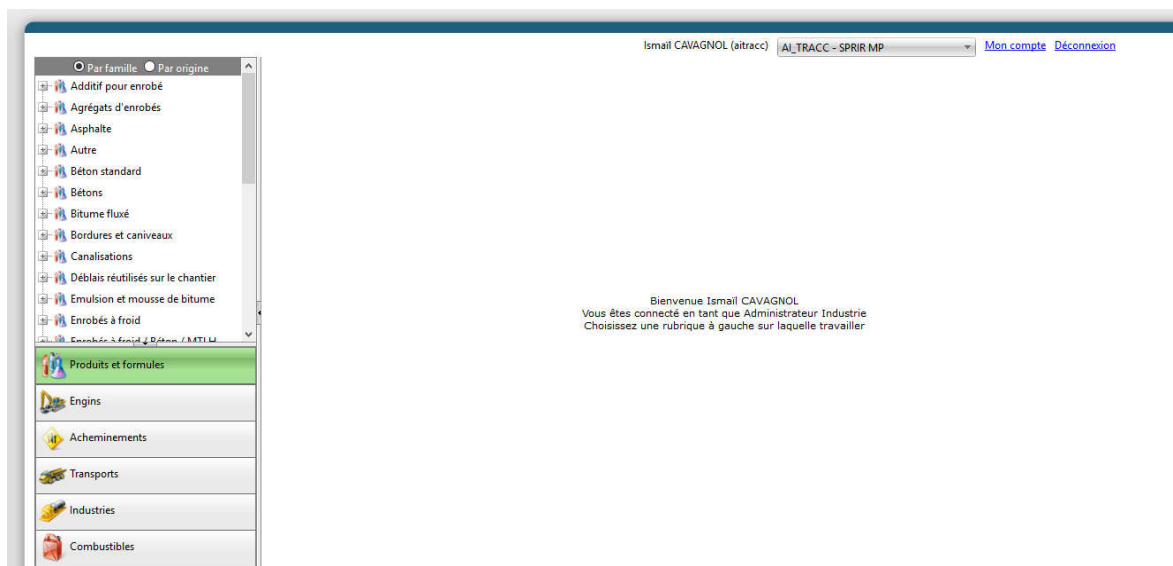

Figure 21 – AI Profile Home Page
Once the access email has been received, the Industry Administrator (AI) can choose his password and log in by entering the login that ACEU has assigned to him. He is therefore the SEVE industry manager for his EU. When you arrive on the home page, you will be presented with six tabs on the left side of the screen (Figure 21).